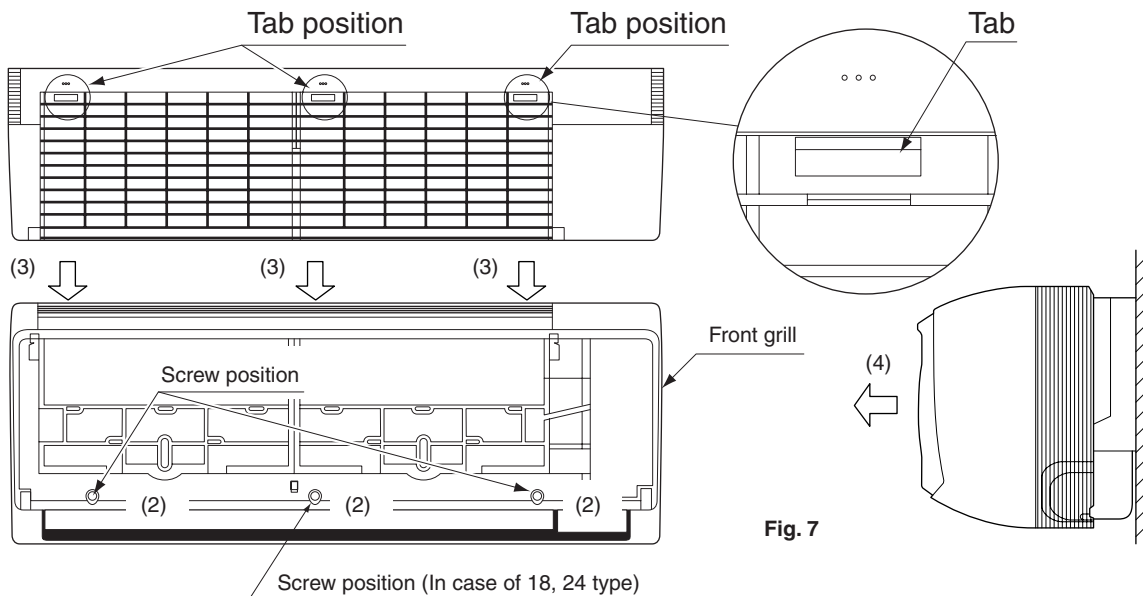
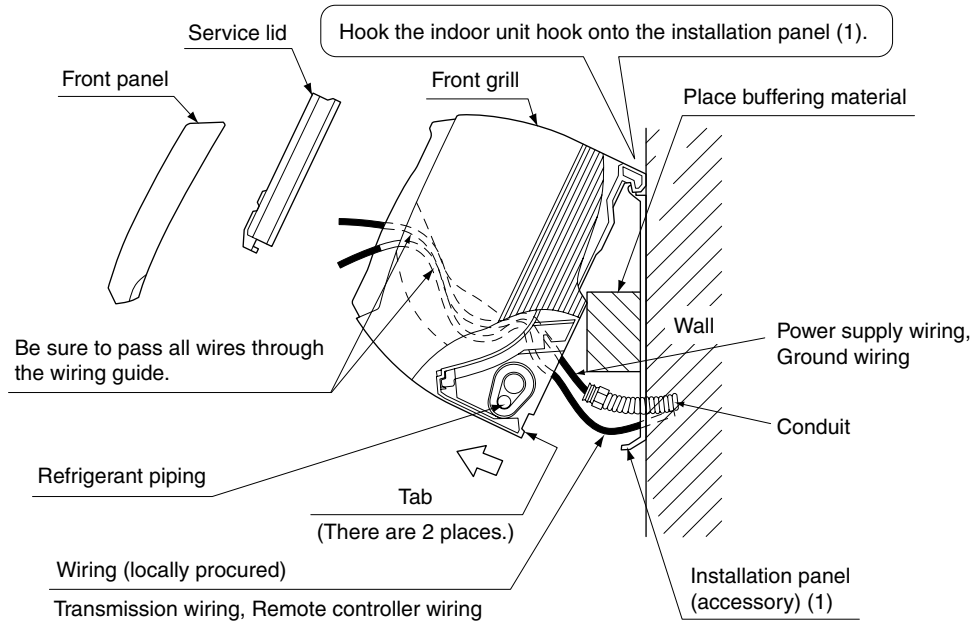

Fig. 7
Fig. 9
For left, bottom-left, and back-left piping, refer to Figure 7.
(7) Hook the indoor unit onto the installation panel. (Refer to Fig. 9)
(10) Push on both bottom edges of the indoor unit using both hands and hook the tab on the back of the indoor unit onto the installation panel (1). (Refer to Fig. 9)
- At this time remove the buffering material placed in step (6).
- Remove the front grille. (Refer to Fig. 7)